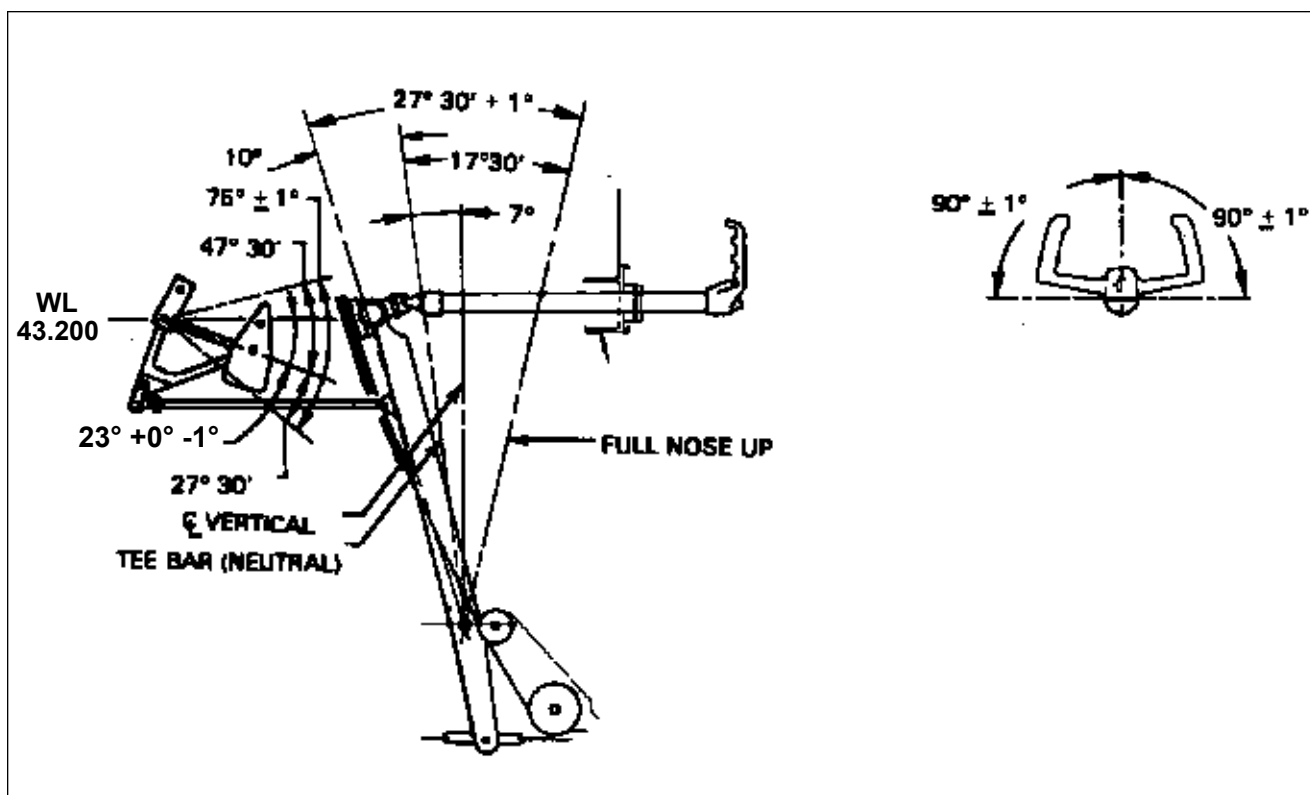

Figure 27-7 Control Column Rigging
- b. Connect the bobweight actuating rod to the tee bar. (Refer to Figure 27-7 for proper rigging of bobweight.)